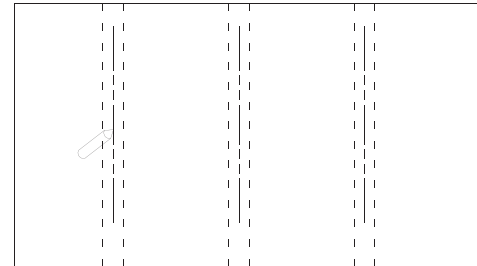

Figure 3
1. Use a high quality electronic stud finder (commercially available) to locate dead center of three adjacent wood studs spaced 16" apart. Mark the location of each stud (Figure 3).